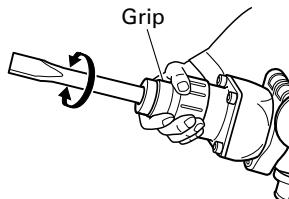

Fig. 9
- Turn the grip as illustrated in Fig. 9 and fix the working position of the tool.
- Switch the selector lever to "hammering" according to the procedures mentioned in the above item (1) and secure the position of the tool.